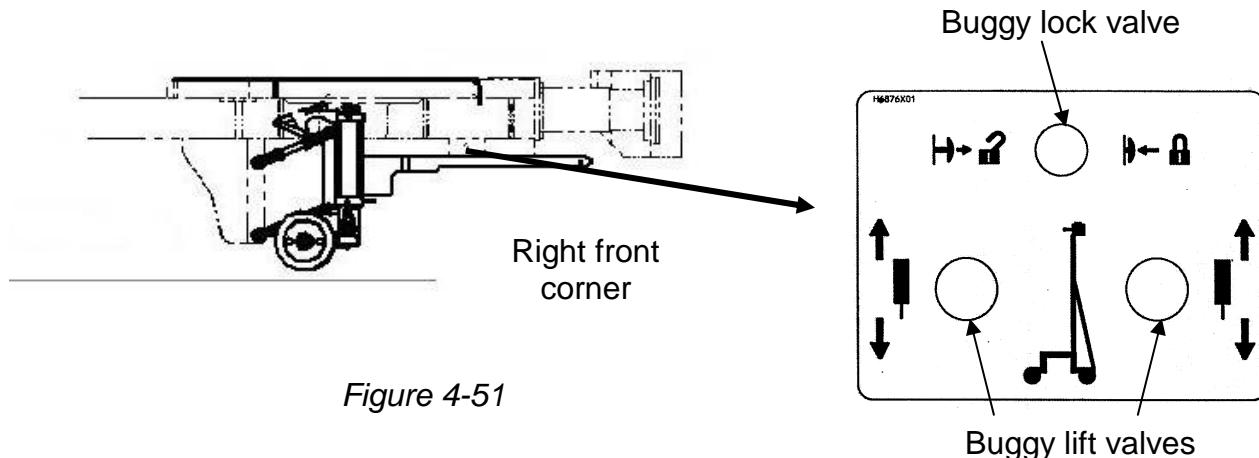

Figure 4-51
1. Take the lining projector from the cab and proceed to the front of the machine, raise the projector buggy lift mechanism by lifting the left and right buggy lift toggle valve handles, and pull out on the lock valve to unlock the lift frame. See Figure 4-51.